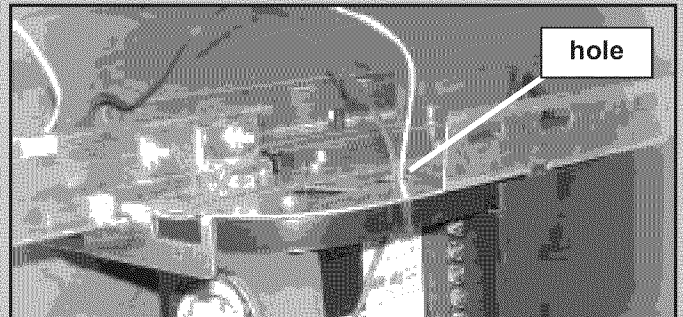

FIG. 1-12 Run wire to power head.
- Run wires back to power head through hole in top of power head (Fig. 1-12).